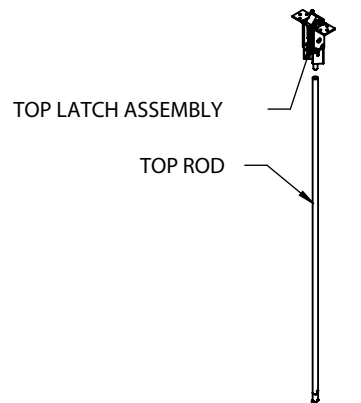

FIGURE 2-4
- G. Screw top rod into latch assembly (see Figure 2-4).